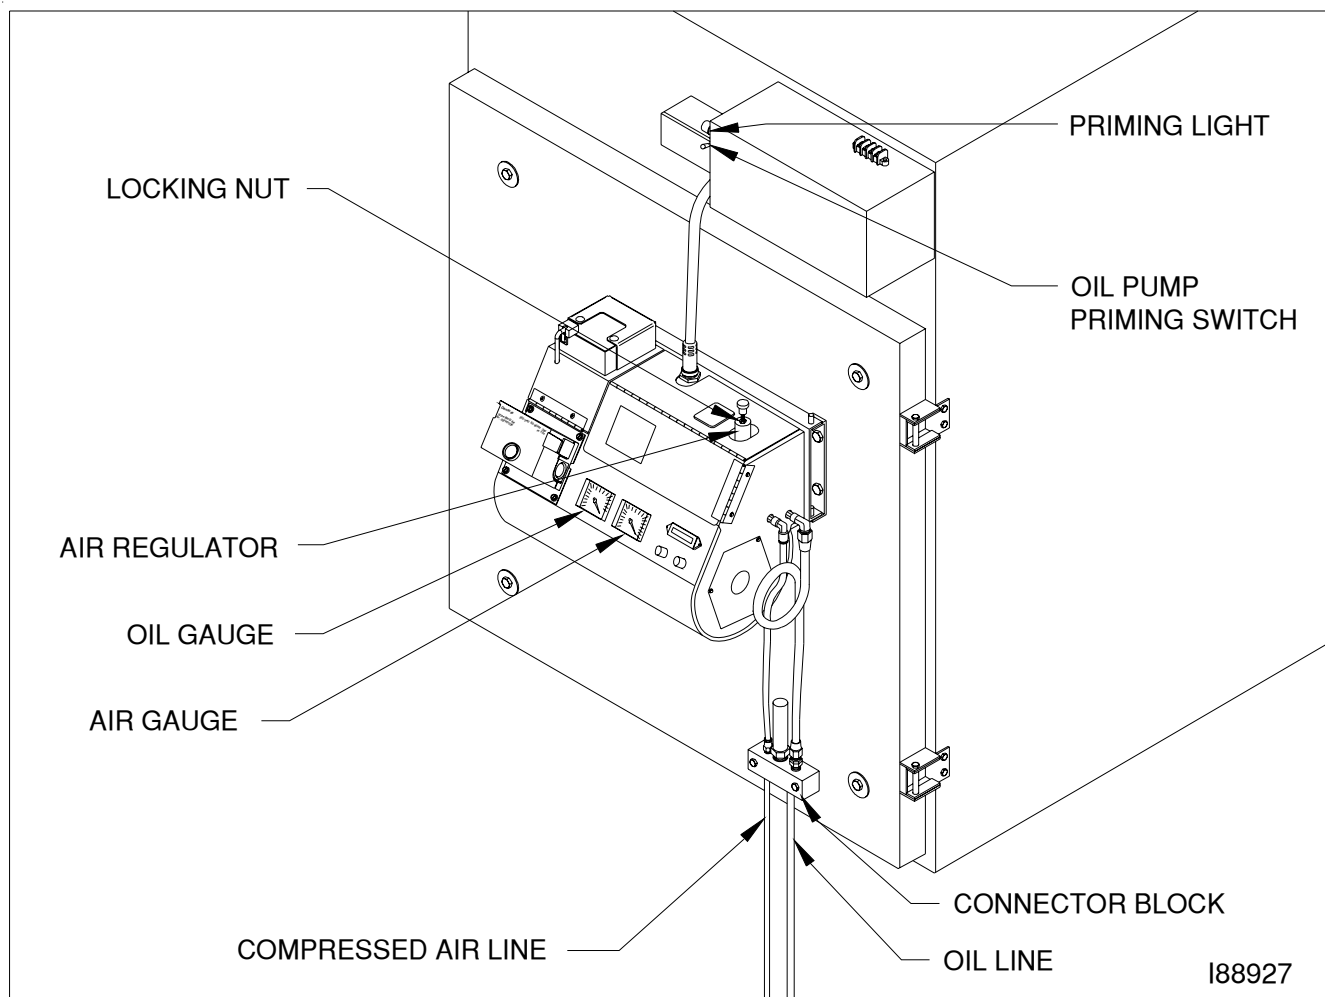

Figure 5D - Detail of Burner Connections/Components
- a. Refer to Figure 5D to locate the priming switch.